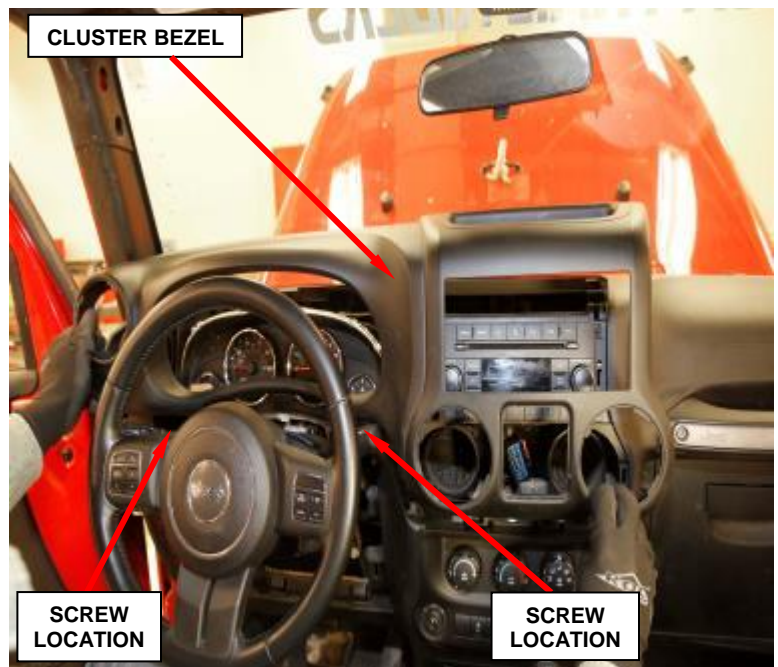

Figure 169 – Cluster Bezel Screws
19. Remove the two screws below the cluster on both sides of the steering column (Figure 169).